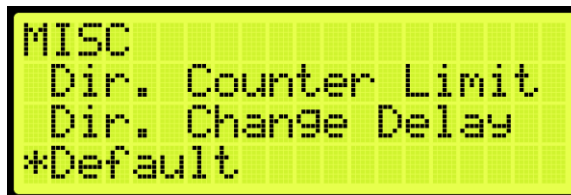

Figure 469: MISCELLANEOUS Menu – Default
- From the MISCELLANEOUS menu, scroll and select Default (See Figure 469).
2. From the MISCELLANEOUS menu, scroll and select Default (See Figure 469).